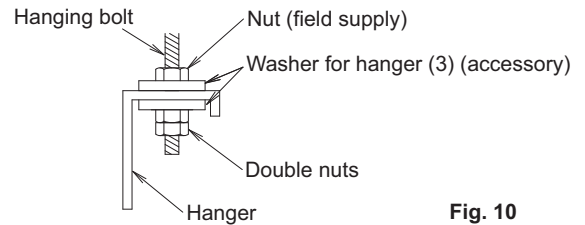

Fig. 10
(1) Fix the hanger to the hanging bolt. (Refer to Fig. 10)